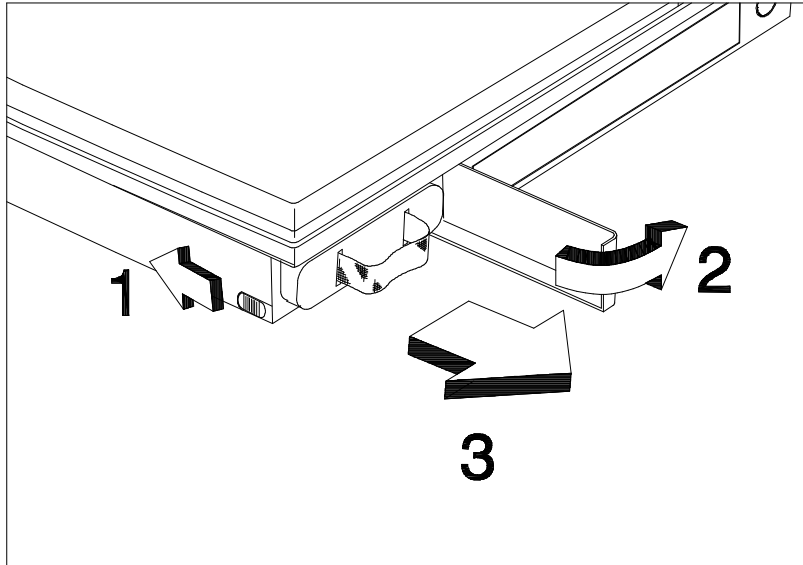

Figure 6-2. Battery Removal/Replacement
2. Unlatch the battery compartment door (right front corner of the unit) as shown in Figure 6-2.
3. Slide the battery compartment door out slightly and then swing the door outwards as shown in Figure 6-2.